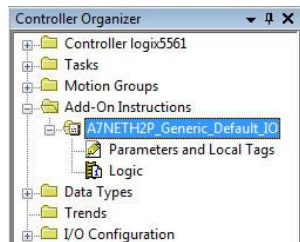

Figure 30: Generic Default IO Add-On Instruction
- 2) Right click on “Add-On Instructions” in the controller organizer view and select “Import Add-On Instruction”. Browse and import the generic default I/O add-on instruction. Refer to Figure 30.